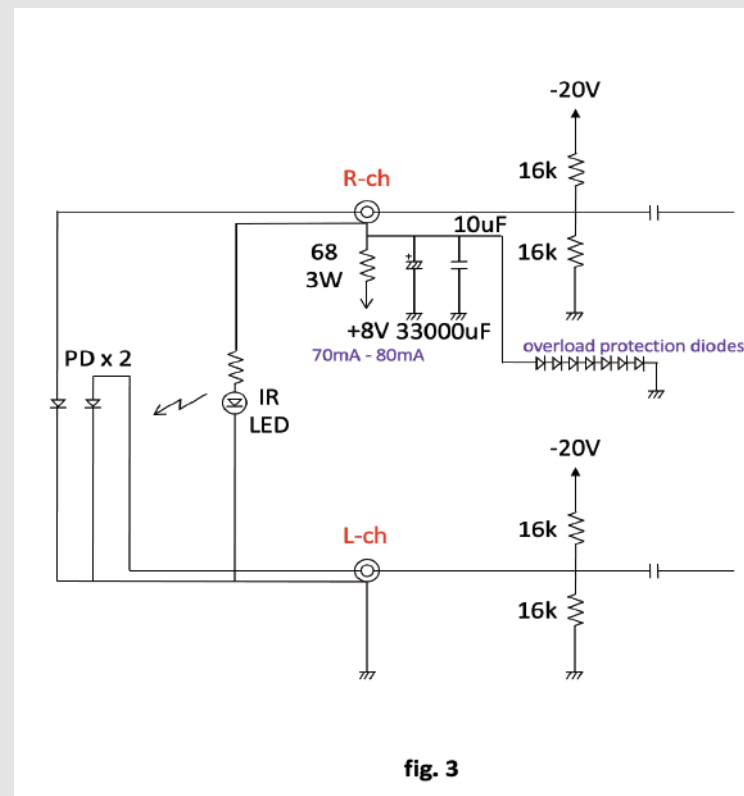

fig. 3
A In DS Audio’ s optical pickup cartridges, infrared LED for light source and photo detector (PD) are connected as shown in fig.3. In order to protect PD from overload damage, supply voltage to the infrared LED must be kept lower than +5V in any situation.